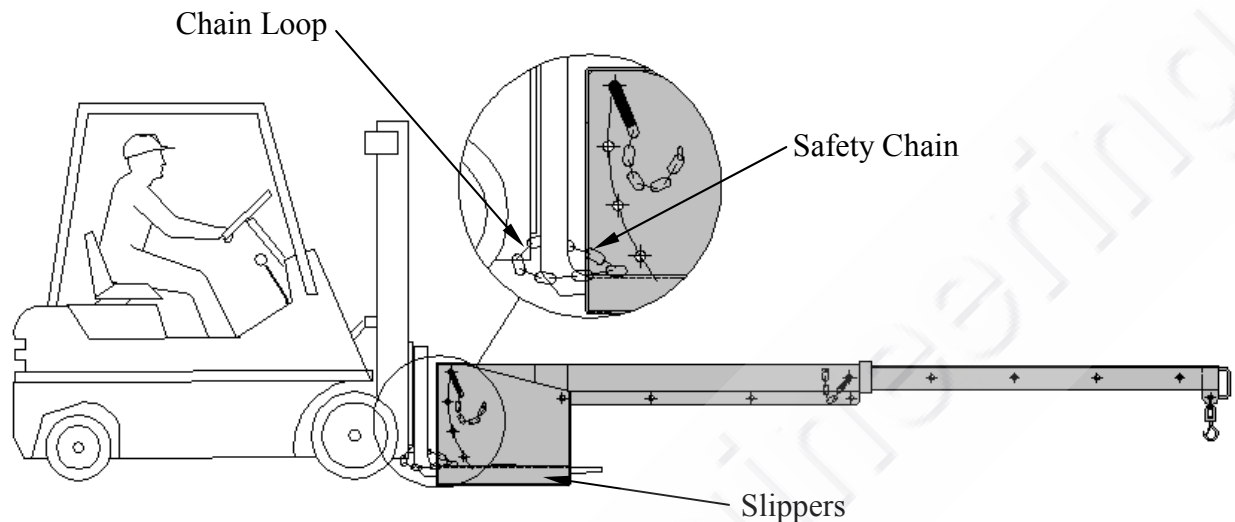

Fig. 3.1
To install the attachment, engage the forklift arm into the slippers as shown in *Fig. 3.1*. With the fork arm shank (vertical face) firmly against the rear of the attachment, run the rear safety chain provided around the carriage or tower. Re-attach the chain to itself by using the snap hook provided.
- K) The Operator shall check the attachment is securely attached, refer *Fig. 3.1*.